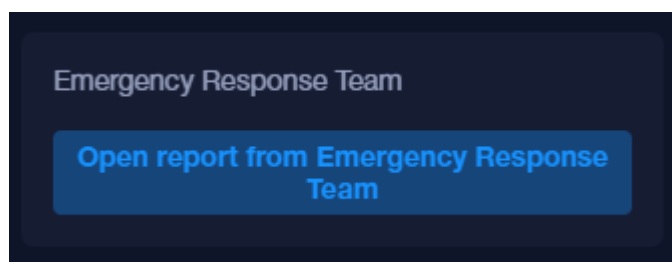
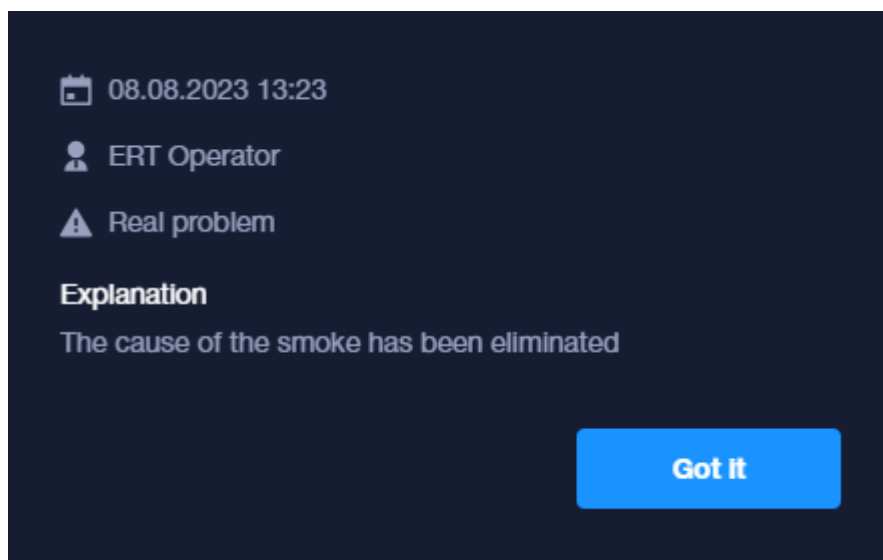

Figure 21. "Open report from Emergency Response Team" button
Figure 22. Report from the Emergency Response Team operator
7. If *Emergency Team operator* is assigned to further process the incident, the incident will immediately disappear from the incident feed and its card will be closed. The *Emergency Team operator* will send a report after processing the incident. To view the report, click the **Open report from Emergency Response Team** button (see Figure 21). An example of the report is shown in Figure 22.